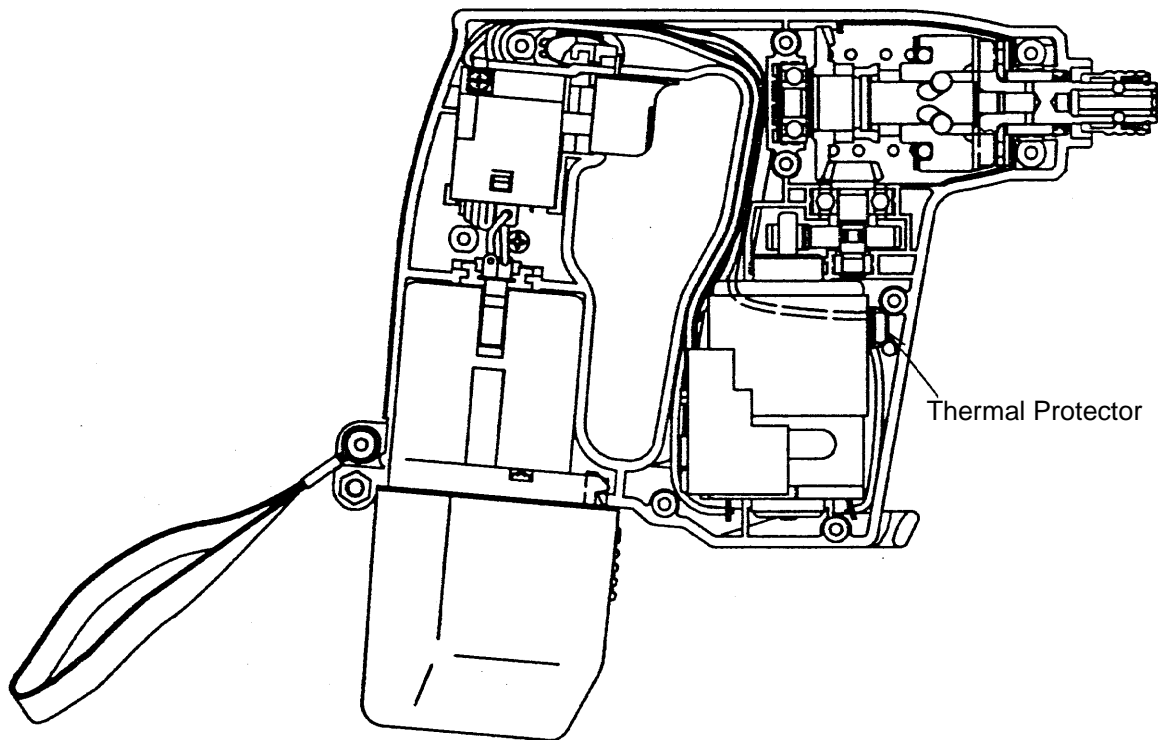

Fig. 18-3
- (c) When installing the Motor **[44]** in Housing (A), make sure that the stopper groove of the Motor **[44]** is registered with the projection of Housing (A) to prevent relative angular movement. Here, bring the Thermal Protector **[43]** into close contact with the Motor **[44]** and insert it between the Motor and the round bar of the Housing (Fig. 18-3).